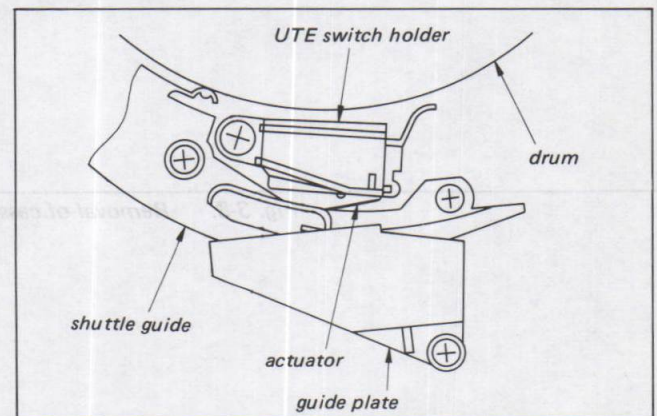

Fig. 3-11. Unthreading end switch
- 3) Check that the actuator for the unthreading end switch is not tripped as shown in Fig. 3-11. (Slowly rotate the threading motor by hand and verify with a click sound.) Adjust according to Paragraph 3-13-2 if needed.